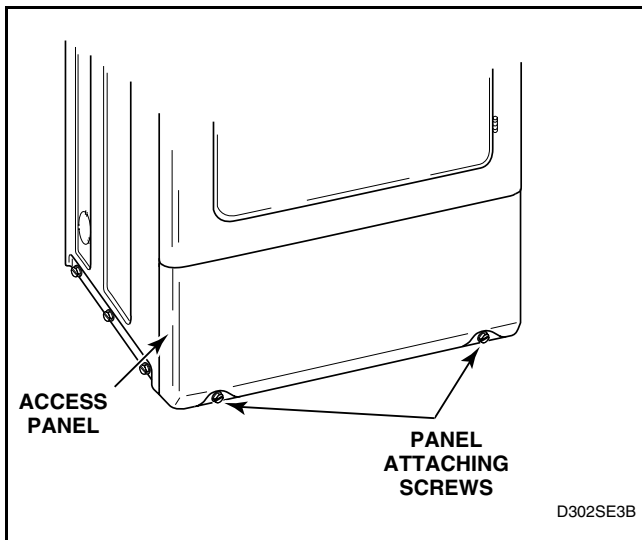

Figure 6
(Figure 6)
- a. While supporting the access panel, remove two screws from bottom edge of access panel. Refer to *Figure 6*.